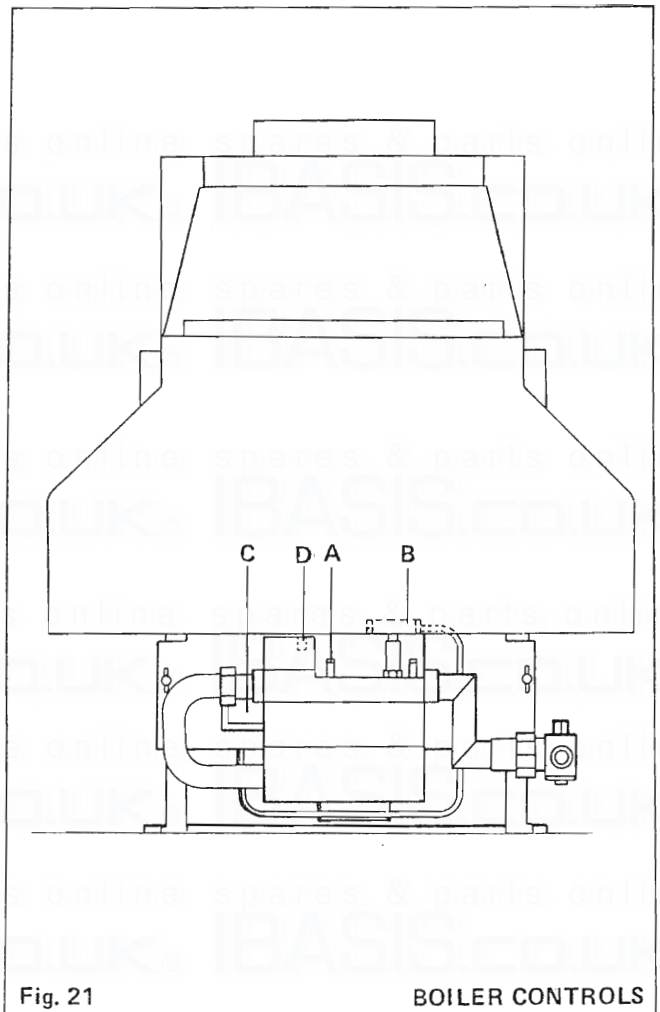

Fig. 21
— Refer Fig. 21
Remove cap from the restrictor and turn the adjuster screw (B), Fig. 21, ANTI-CLOCKWISE to INCREASE the flame or CLOCKWISE to DECREASE the flame.
Any required adjustments should be made by using the burner setting pressure adjustment screw (D), illustrated in Fig. 21.